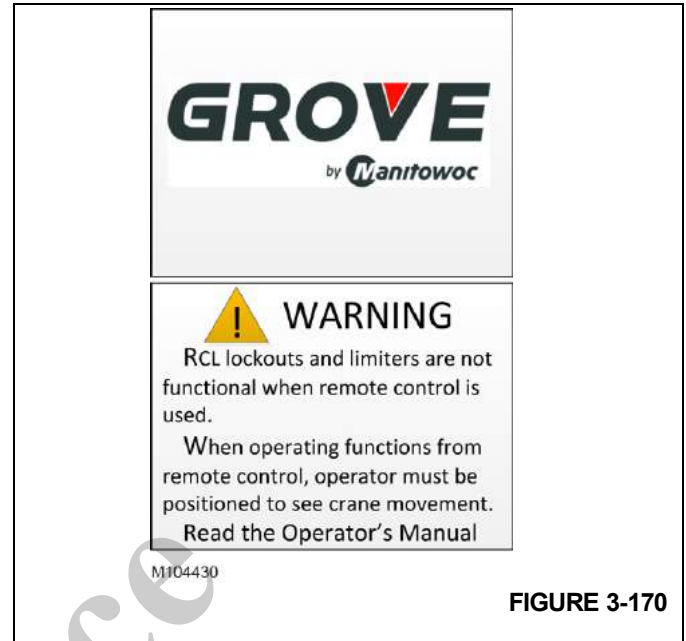

FIGURE 3-170
- c. The SPLASH screen will appear for a few seconds, followed by the WARNING screen, See (Figure 3-170).